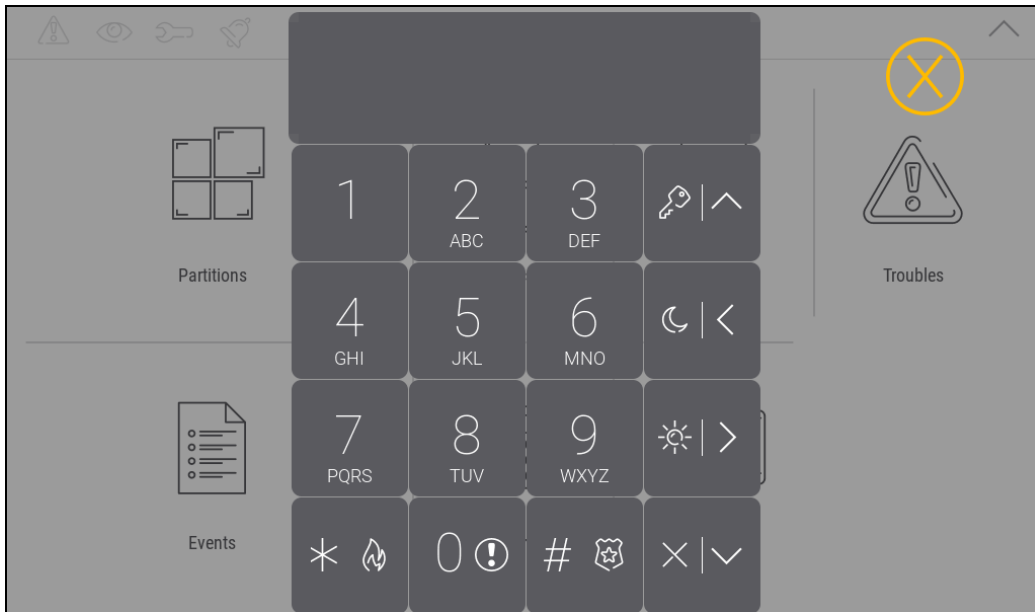

Fig. 16. Terminal.
4. Tap the “Terminal” function. The terminal will be displayed (Fig. 16).